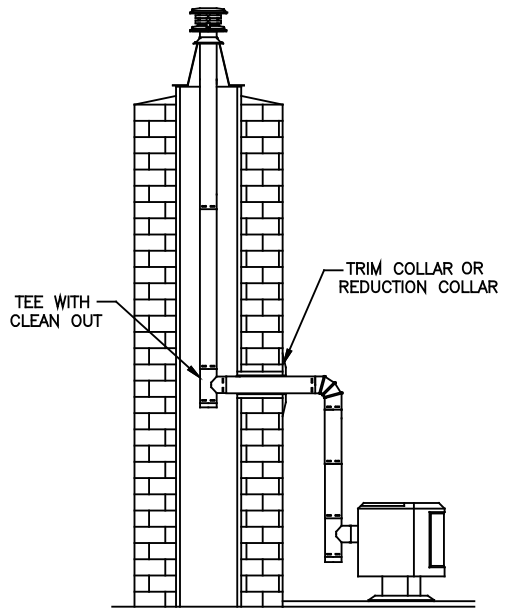

Figure 26
B. A Tee Section is installed at the bottom end of the vertical pipe (*Figure 26*).